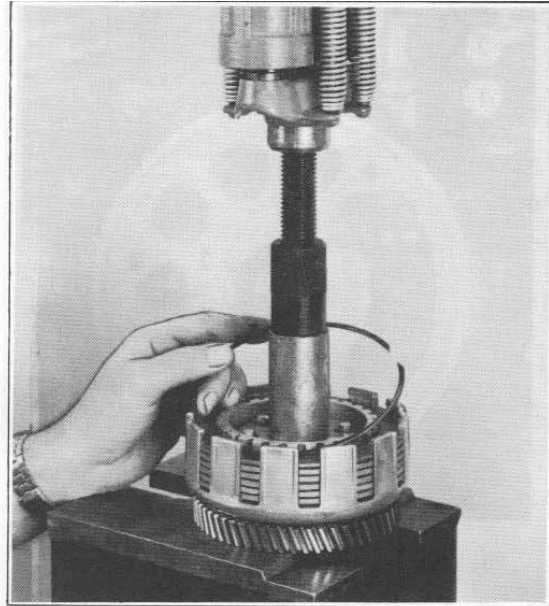

Figure 4.9A. Disassembling Later Clutch
Remove ring (26) from slot in clutch shell assembly (13) as follows. Temporarily remount plate (14) using two of screws (8). Place assembled clutch in press as shown in Figure 4.9A. Then, using a tubular spacer as shown, compress assembly until ring (26) can be removed. Remove ring (26). Back off press and remove assembly from press.